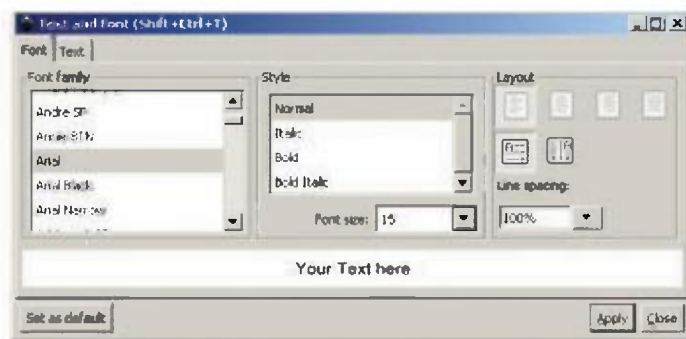

Figure 12. Add text with the Text tool. Type the text, then open the Text and Font dialog box to select the font and font size.
4. Find Arial and select it. Change the font size to 15 point (refer to **Figure 12**). Close the Text and Font box.